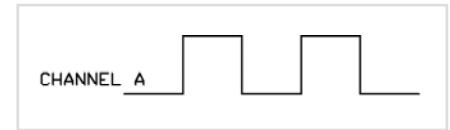

Figure 2. Single channel encoder output.
- Single channel (Figure 2)
As seen in Figure 2, a single channel has a single “A” channel that will output a set number of pulses per revolution. The single channel encoder will give feedback that can determine rate, velocity, or acceleration. A single channel encoder cannot give directional feedback and is therefore limited from many bi-directional applications.